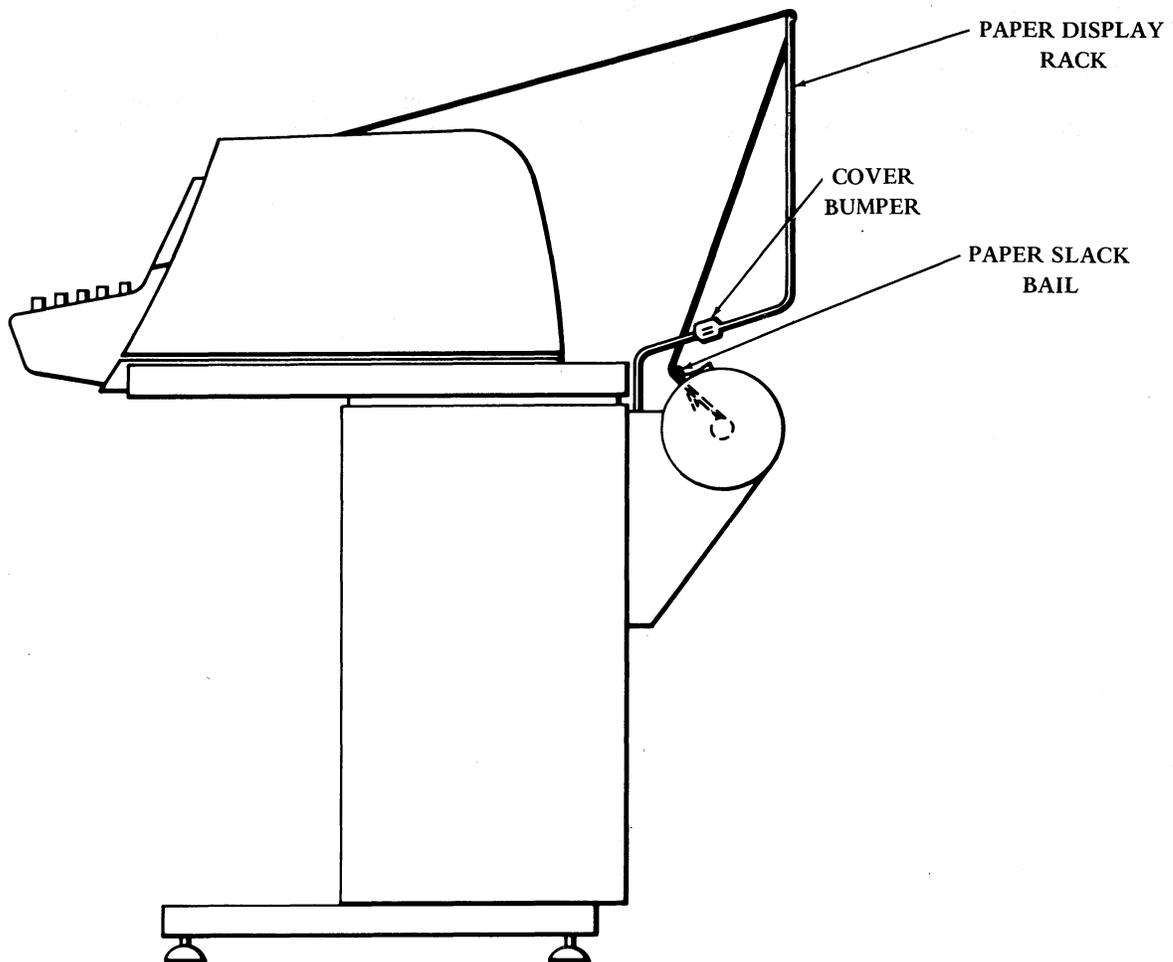

Figure 4 - Table Without Center Back Panel
- 3.11 Insert the display rack and route the paper as shown in Figure 4.